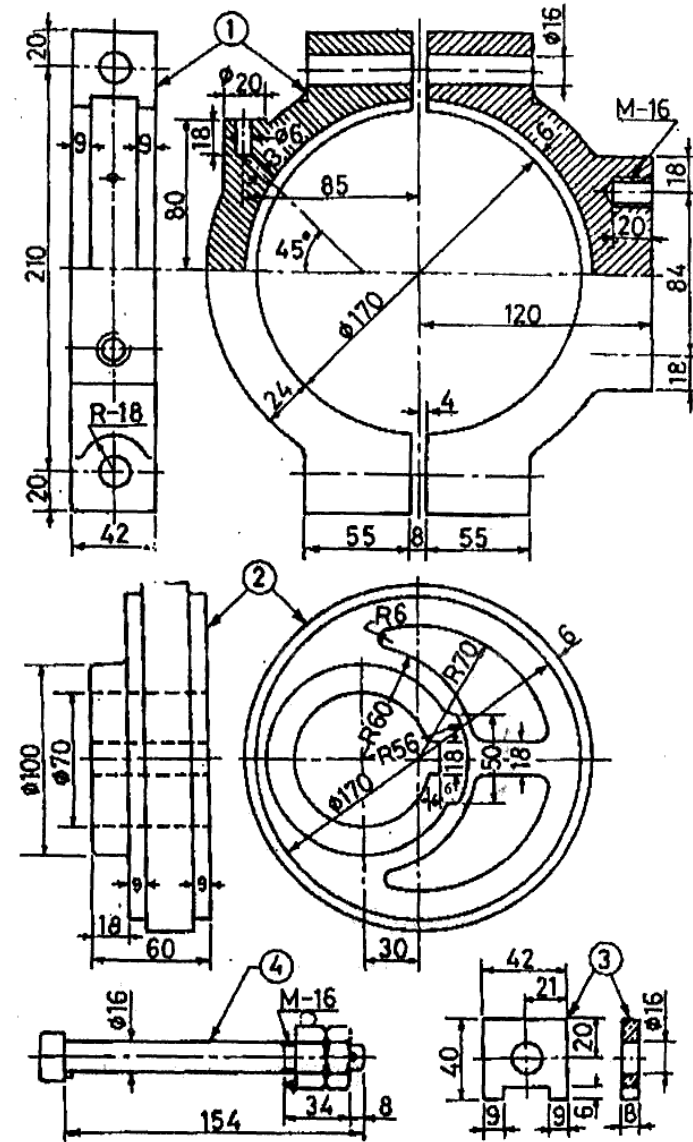

Figure 3
7. Assemble together the parts of eccentric shown in fig.3 and draw the following views. 40